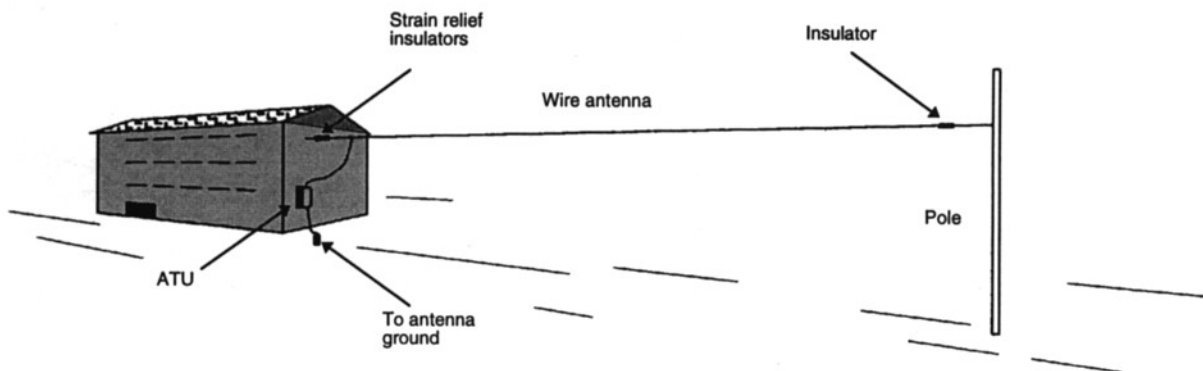

Figure 2-10. Typical Base Station Installation Using a Wire Antenna
**Step 3.** If a wire antenna is used, connect it directly to the ATU RF output terminal. Use mechanical strain relief similar to the one shown in Figure 2-10.